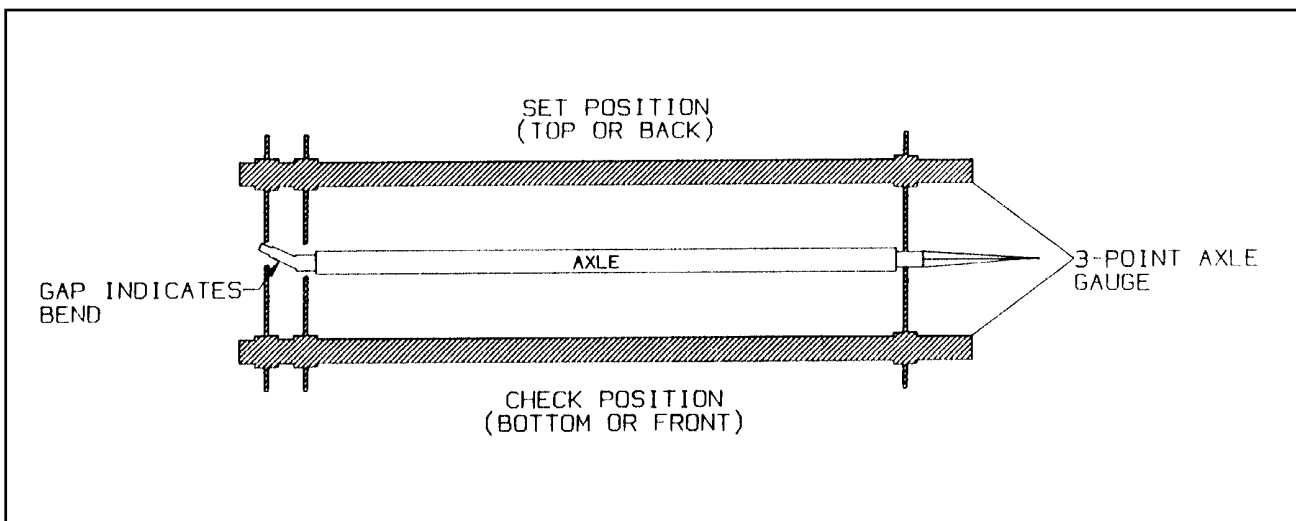

Figure 4-7 Checking Axle for Bend
- b. Place a 3-point axle gauge against the front side of the axle, and adjust each axle gauge point to the axle. (Double point end against the inner and outer wheel bearing surfaces of the spindle being checked and the other point on the inner bearing surface on the other spindle.) (See Figure 4-7).
c. Move the axle gauge and place against the back side of the axle. If either of the points of double point end fails to touch the axle surface, a bent spindle is evident. A point gap of .015" or more is considered excessive tire "toe" and the axle must be replaced (See Figure 4-7).